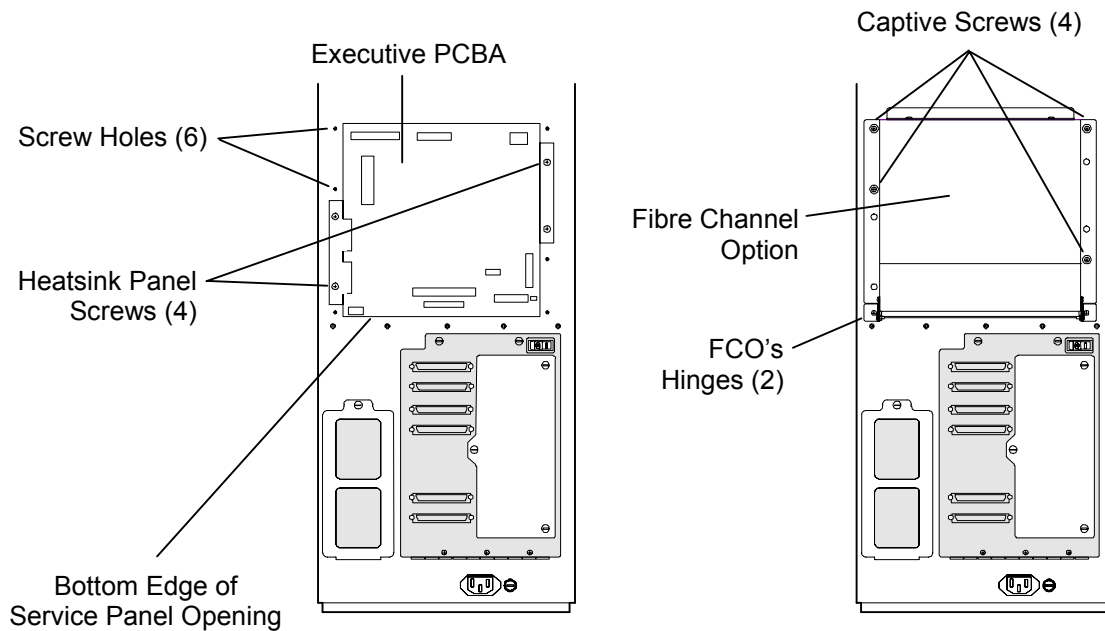

Figure 6-10 Rear View of TLS
with the openings in the FCO. See Figure 6-10. The hinge surfaces should rest flat against the rear of the library.
4. Using a Phillips screwdriver, secure the FCO to the rear of the library at the FCO's two top captive screws. See Figure 6-10.
5. Using two of the screws that were removed with the service panel, attach the FCO's two hinges to the rear of the library. See Figure 6-10.
11. Carefully lift the FCO until it touches the rear of the TLS. Using a Phillips screwdriver, secure the Fibre Channel Option to the rear of the TLS by tightening all four of the captive screws. Refer to Figure 6-10 for captive screw locations.